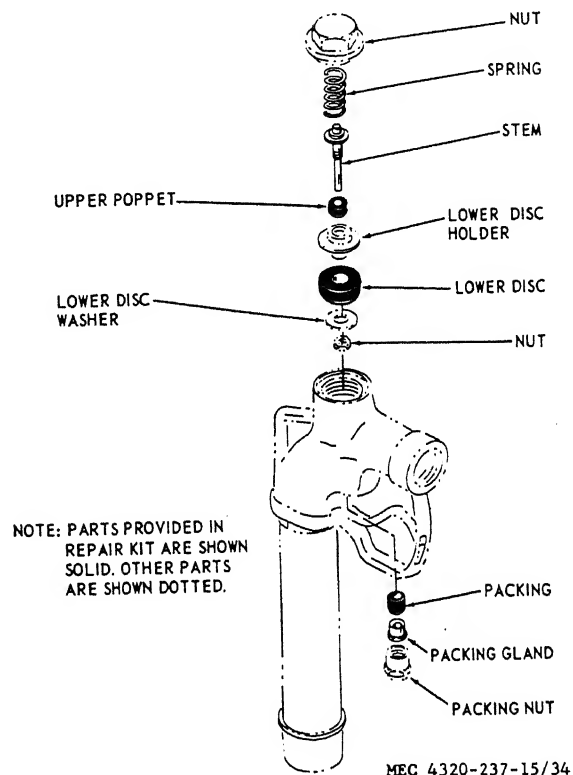

Figure 34. Nozzle, disassembly and reassembly.
b. *Disassembly.* Refer to figure 34 and disassemble the nozzle.
- (1) Discard the removed parts for which there are replacements in the nozzle repair kit.
- (2) Clean all remaining parts with an approved cleaning solvent; dry thoroughly.
- (3) Inspect the nozzle parts for cracks, distortion, worn or damaged threads, and other damage; replace damaged parts. Make sure the ground cable and pinch-type ground connector are attached and in good condition.
d. *Reassembly.* Refer to figure 34 and reassemble the nozzle.